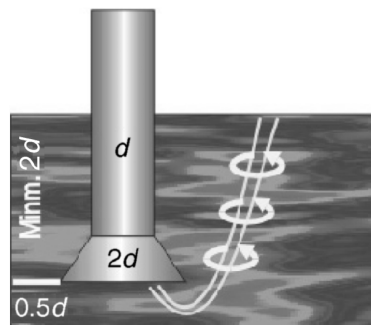

Figure 6.7 – Formation of eddies and vortices
- In case of a bellmouth or funnel with $D = 2d$, the optimum distance between the rim of the bellmouth and the bottom of the sum should be approximated $0.5d$. If this is larger it leads to the formation of eddies and vortices as shown in Figure 6.7. Swirling vortices can cause the air to be drawn in the suction pipe interfering with the pump performance.